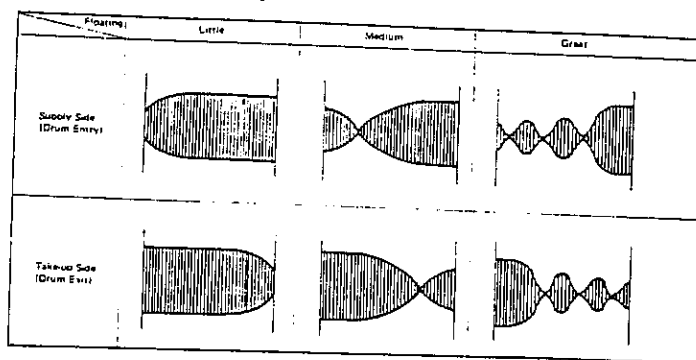

Figure 29
3. Adjust the height of the guide rollers while watching the envelope, so that the tape runs along the drum lead. Whether the video tape is above or below the helical lead will be shown in the waveform represented by the envelopes in figures 29 and 30 respectively.